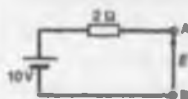

Figure 13.28
- (i) The open-circuit voltage, E , across terminals AB in Fig. 13.28 is equal to 10 V, since no current flows through the $2\ \Omega$ resistor and hence no voltage drop occurs.